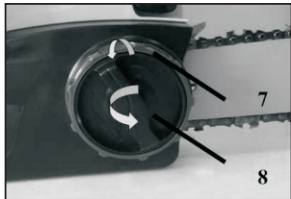

Fig.21
8.4 REPLACING THE GUIDE BAR AND SAW CHAIN (FIG.21)
- Loosen bar adjustment locking knob (8) counterclockwise one or two full turns.
- The chain tensioning knob (7) must be fully unscrewed counterclockwise until it stops.
- Bar adjust locking knob (8) should be unscrewed counterclockwise until it stops.